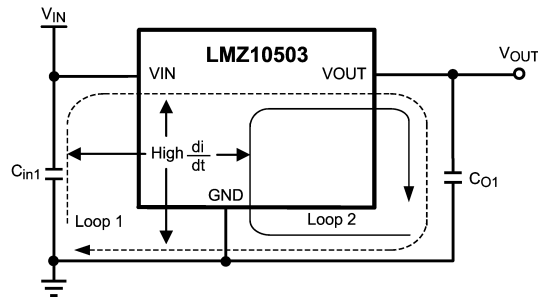

Figure 29. Critical Current Loops to Minimize
From an EMI reduction standpoint, it is imperative to minimize the high di/dt current paths. The high current that does not overlap contains high di/dt, see Figure 29. Therefore physically place input capacitor ( $C_{in1}$ ) as close as possible to the LMZ10503 VIN pin and GND exposed pad to avoid observable high-frequency noise on the output pin. This will minimize the high di/dt area and reduce radiated EMI. Additionally, grounding for both the input and output capacitor should consist of a localized top side plane that connects to the GND exposed pad (EP).